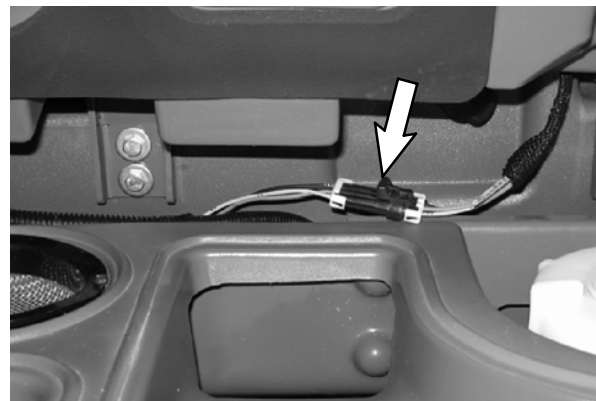
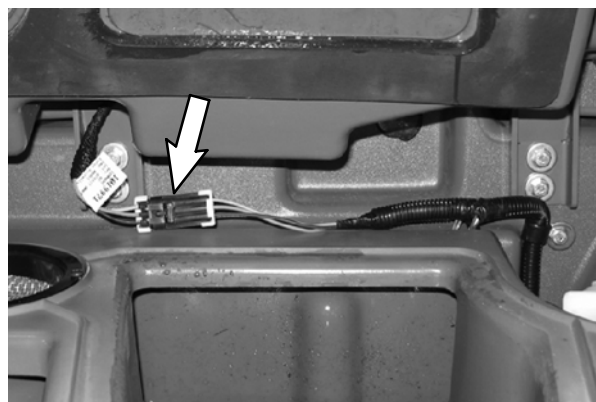

FIG. 4 - M20 Harness Location
FIG. 5 - T20 Harness Location
4. Open the recovery tank cover and pull the main wire harness backup alarm and revolving light connector from between the recovery and solution tank. Connect the warning/backup harness (8) to the main wire harness. Refer to Fig. 4 or Fig. 5, and Fig. 8.